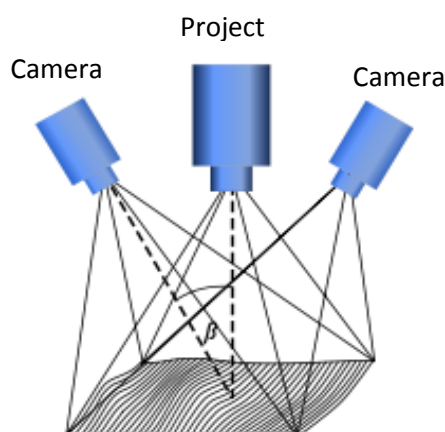

Figure 6
- (c) Laser scanner is of the 3D scanning technologies currently available. In *Figure 6*, two cameras and multiple stripe lines are used in this 3D scanning machine. Discuss the reason of using 2 cameras and multiple stripe lines.